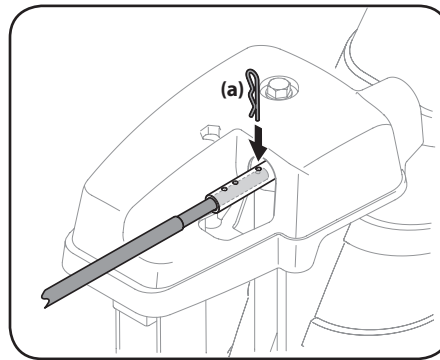

Figure 3-9
- Push in chute control rod until the hole in it lines up with the third hole in chute rotation assembly. See Figure 3-9.
- Reinsert cotter pin (a) through this hole and chute control rod as shown in Figure 3-9.